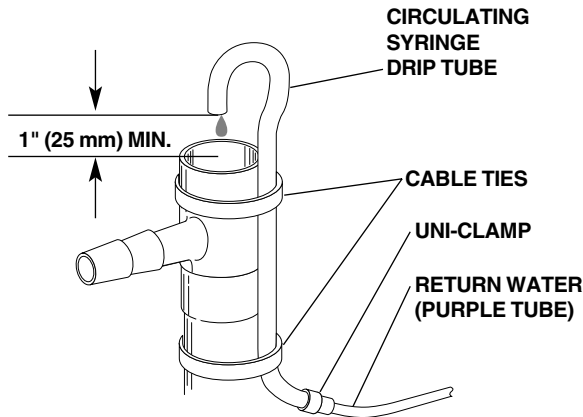

FIGURE 5
- Locate the drain pipe in the floor. Bend and position the drip tube to allow a **minimum** of a 1" (25 mm) air gap from the end of the drip tube to the drain pipe (see Figure 5). Attach the drip tube to the drain pipe using two cable ties.